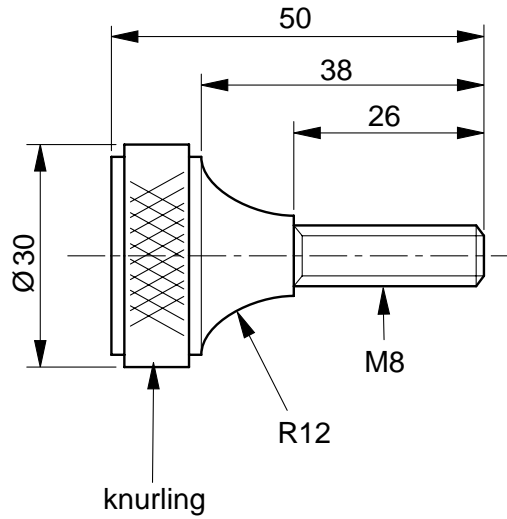

Fig. 1
- 2 Fig. 1 shows details of a drawer handle turned from a length of $\text{Ø}30$ brass rod.